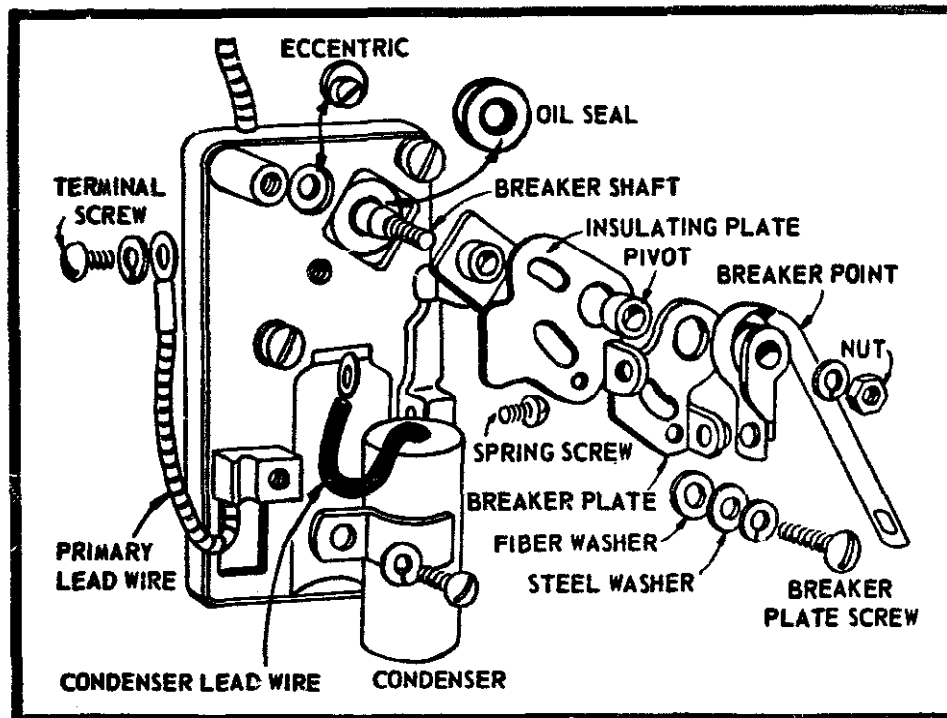
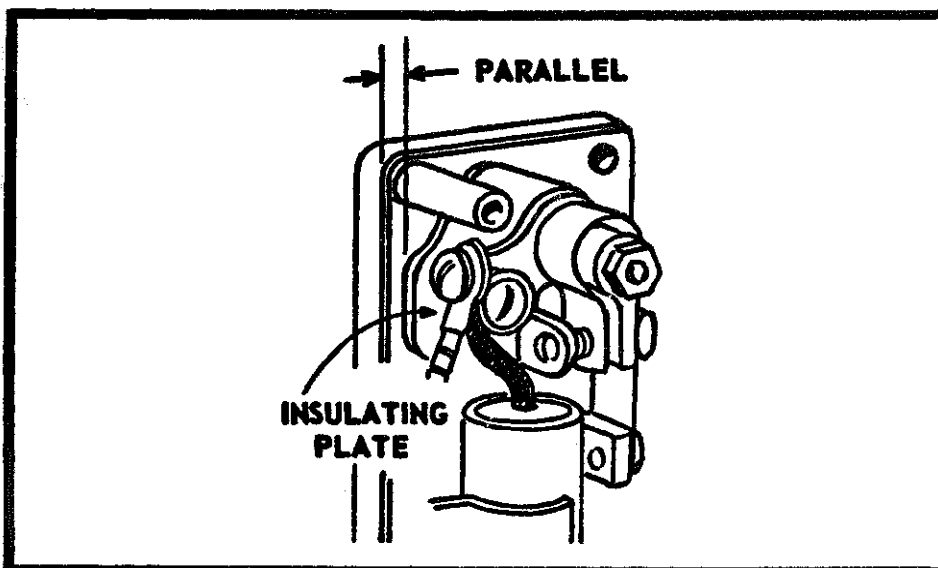

Fig. 2-16. Disassembly procedure for the Magna-Matic. (Courtesy Briggs & Stratton Corp.)
Fig. 2-18. Insulating plate should be parallel with the left-hand edge of breaker box. (Courtesy Briggs & Stratton Corp.)
**Points.** Remove the dust cover and rotate the crankshaft to open the points to their maximum extension (this step will save time upon reassembly). Become familiar with the disassembly procedure illustrated in Fig. 2-16 before proceeding as follows:
- Turn the eccentric screw (Fig. 2-16) to bring the left hand edge of the breaker plate parallel with the left side of the breaker box (Fig. 2-18).